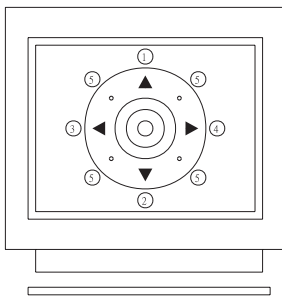

Figure 1
❺ DIAGONAL
Push the joystick diagonally, the camera moves to that direction (direction ❺ on figure 1)